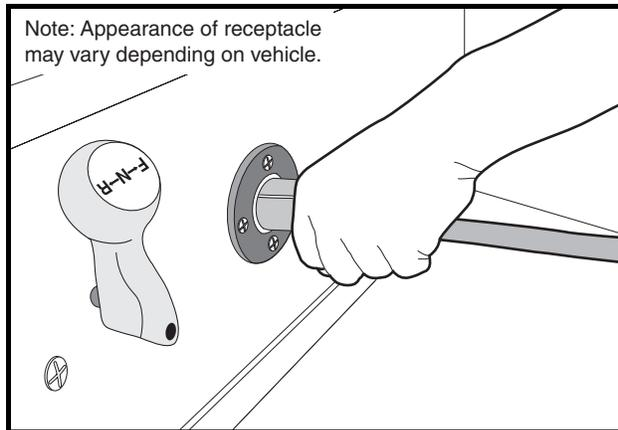
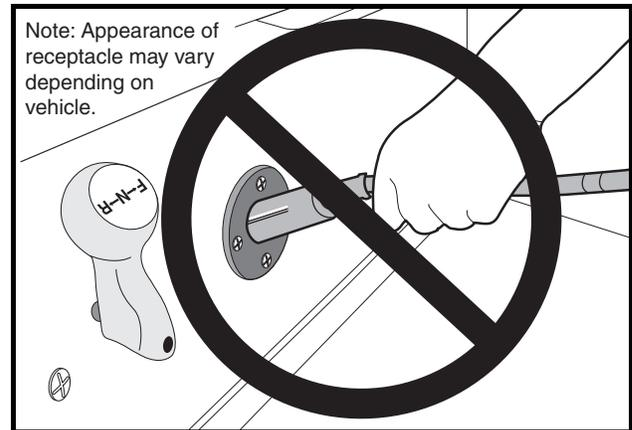

Figure 6-7 Charger Receptacle
Figure 6-8 Incorrect DC Plug Removal
- The battery charger DC plug must be pulled slowly from the receptacle (Figure 6-7, Page 6-9). Jerking or pulling the DC cord out quickly could cause arcing that could damage the plug and receptacle and could cause batteries to explode (Figure 6-8, Page 6-9).
- **The charger plug must be pulled slowly from the receptacle (Figure 6-7, Page 6-9). Jerking or pulling the DC cord out quickly could cause arcing and burning that could damage the plug and receptacle and could cause batteries to explode (Figure 6-8, Page 6-9).**
- Do not rock or bend the plug. To connect the charger plug to the vehicle receptacle, grasp the plug handle and push the plug straight into the receptacle (Figure 6-7, Page 6-9).
- Do not pull on the DC cord (Figure 6-8, Page 6-9). Do not twist, rock or bend the plug. To disconnect the charger plug from the vehicle receptacle, grasp the plug by the handle and pull the plug straight out of the receptacle.
2. Connect the charger DC plug to the vehicle charger receptacle located on the seat support panel (Figure 6-7, Page 6-9). The charger will activate automatically within 2 to 15 seconds after the DC plug is connected. **See following WARNING.**
- Do not rock or bend the DC plug. To connect the charger plug to the vehicle receptacle, grasp the plug handle and push the plug straight into the receptacle (Figure 6-7, Page 6-9).